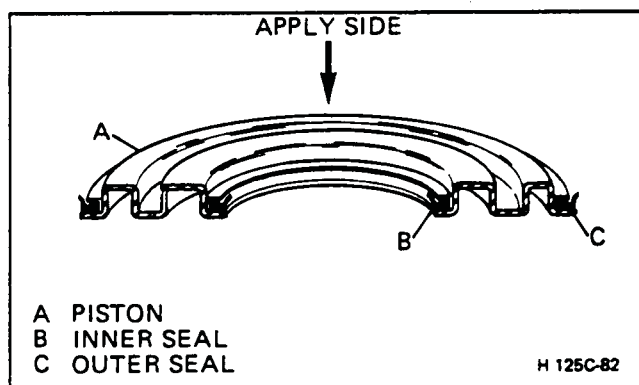

Figure 68 Typical Apply Piston
1. Inner (627) and outer (626) seals – lips facing housing (624) (Figure 68)
2. Insert (628)
3. Piston assembly (629) with J-26744-A. Start inner seal (627) first.